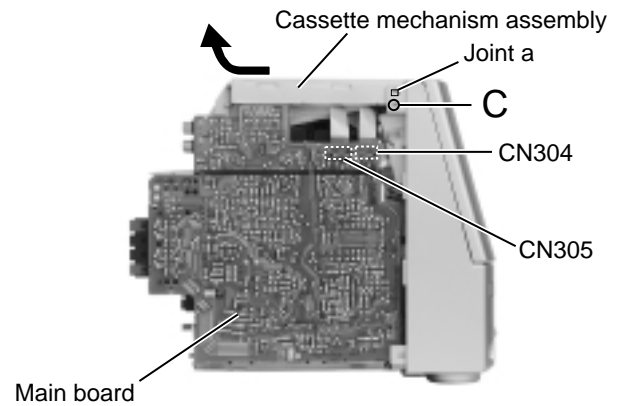

Fig.5
■ Removing the cassette mechanism assembly (See Fig.5 and 6)